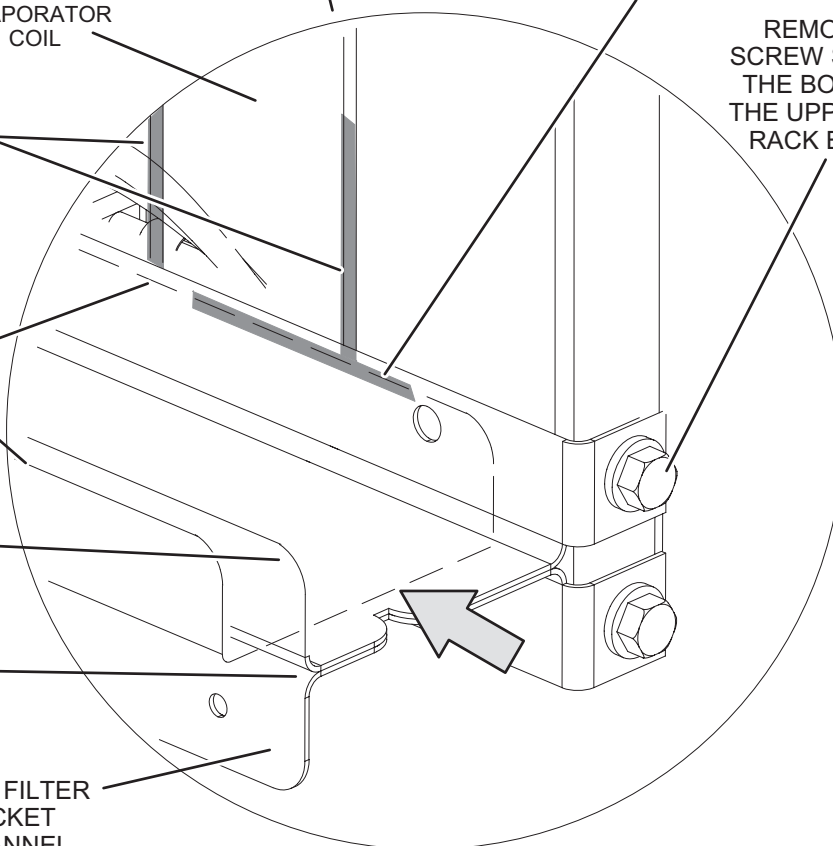

FIGURE 50
The optional, brush-type ionizer produces positive and negative ions to clean air and reduce airborne contaminants. The ionizer was designed to be low maintenance. The device should be checked semi-annually to confirm the brushes are clean for maximum output. The ionizer is located behind the filters. See FIGURE 50.
- 1 - Remove filters, screws securing the top and bottom of the upper filter bracket, and the wire ties the screws hold in place. See FIGURE 50.